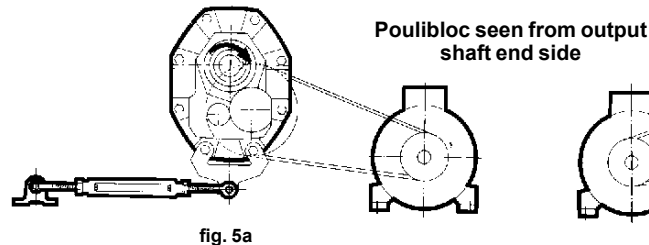

fig. 5a
- section A for clockwise rotation (fig. 5a);